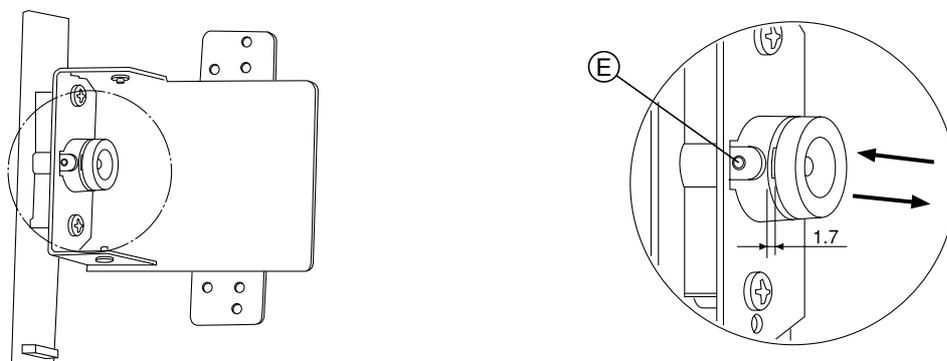

Fig. 1
4) Focus adjustment screw of lens unit (See Figure 1.)